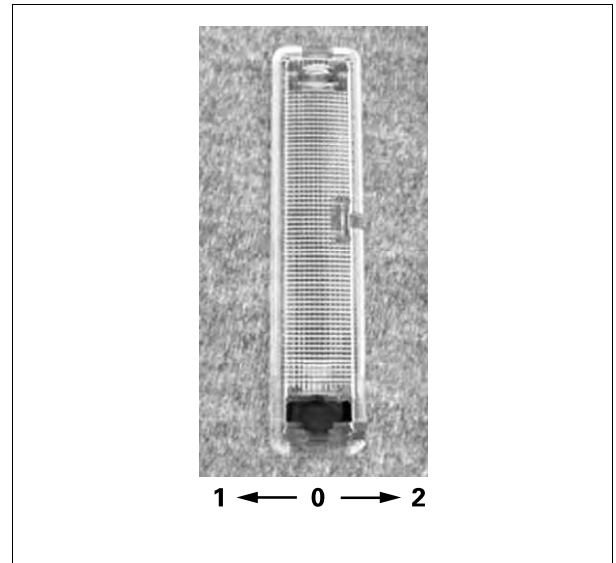

Fig. 14.
- (1) Interior light fig. 14
- (2) Adjustable air circulation vents.
- (3) Fan speed control
- (4) Air conditioning control knob (optional)
- (5) Heater controls